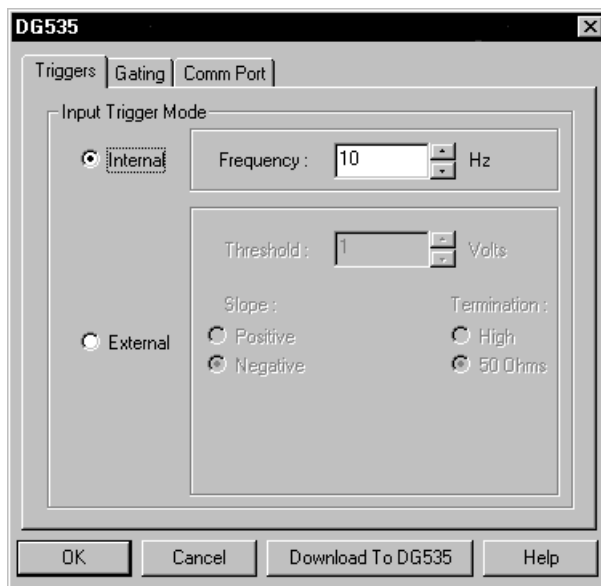

Figure 168. DG535 Triggers tab page
8. Click on the **Triggers** tab Figure 168.